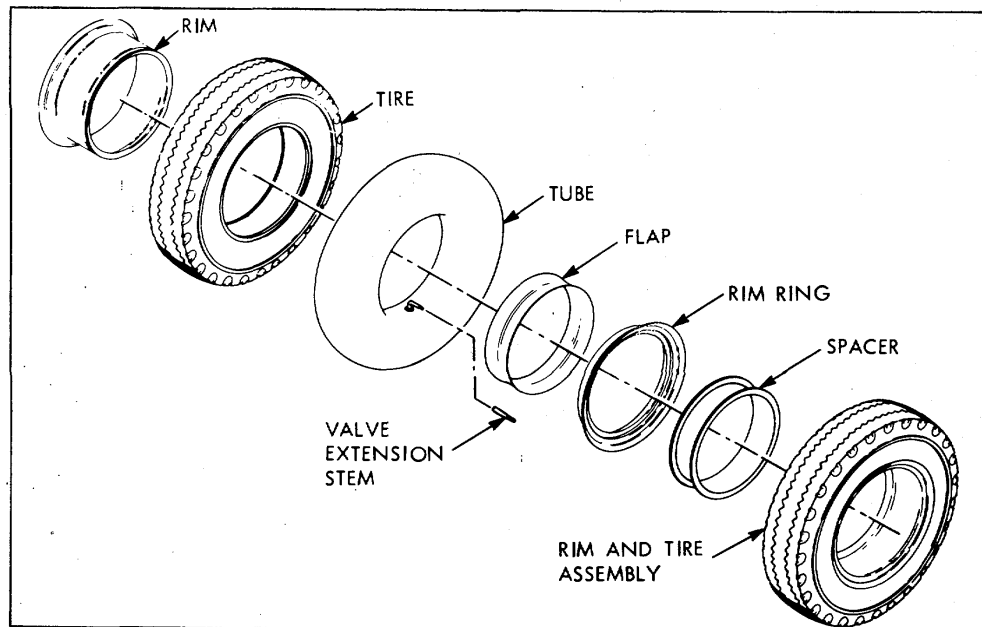

Figure 6-4. Drive Wheel Disassembly
(1) Remove drive wheel.
(2) Fully deflate tires on drive wheel removed.
(3) Remove clamp nuts and clamps and separate drum and wheel from spacer and rim and the tire assemblies (Figure 6-4).
(4) Using service equipment designed for this operation, remove rim ring from rim. Pull rim free, and remove flap and tube from tire.